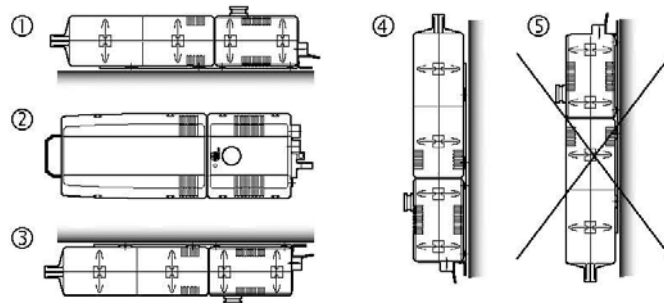

Fig.3 – Positions MCU1
The MOBILETTE MCU1 can be mounted in the following positions (Fig. 3):
The MOBILETTE MCU4 and MCU8 (protection class IPx3) may only be mounted vertically with the battery pack above the control unit (Fig. 3, Pos. ④). This prevents the possibility of fluid entering the system.